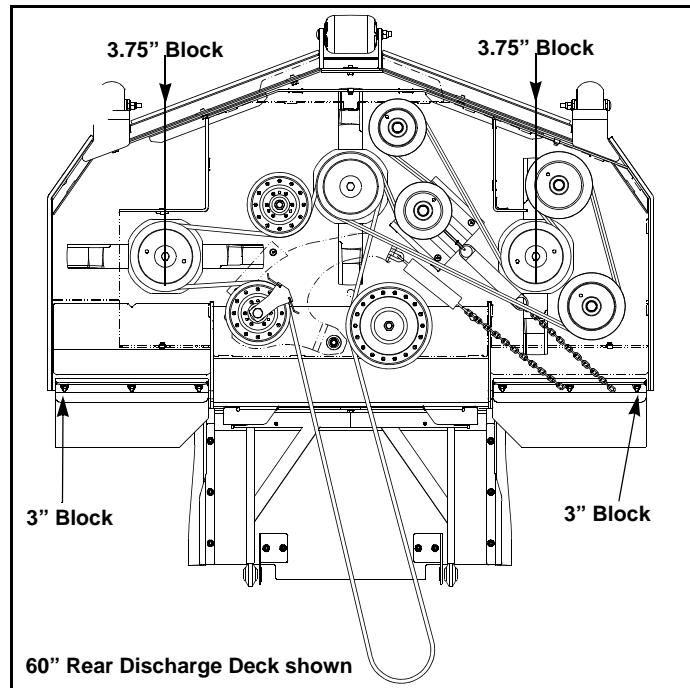

Figure 6-2
- Rear Discharge Deck (all) (Figure 6-2)** – Place two 3.75" (95.3mm) high deck support blocks (two stacked 2" x 4" blocks and one 1" x 4" can be used to create a 3.75" [95.3mm] high support) at the front of the deck as shown. Place two 3" high deck support blocks (two stacked 2" x 4" blocks can be used to create a 3" [76.2mm] high support) at the sides of the deck as shown.